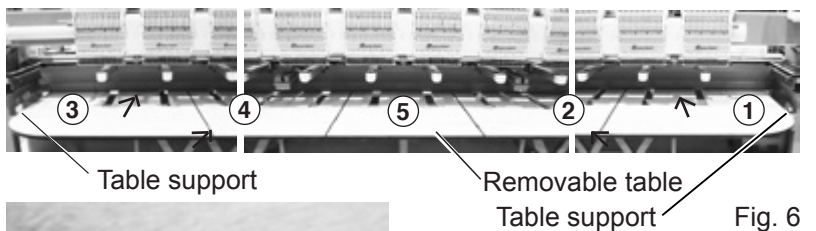

Fig. 6
8. As shown in Fig. 6, 7, insert removable table to Bracket in order of right, left and center (last time) and slide it deep inside. Fix set screws on each Table.
9. As shown in Fig. 6, tighten middle set screw, shut all clamps, insert Table prop and tighten knob bolts.